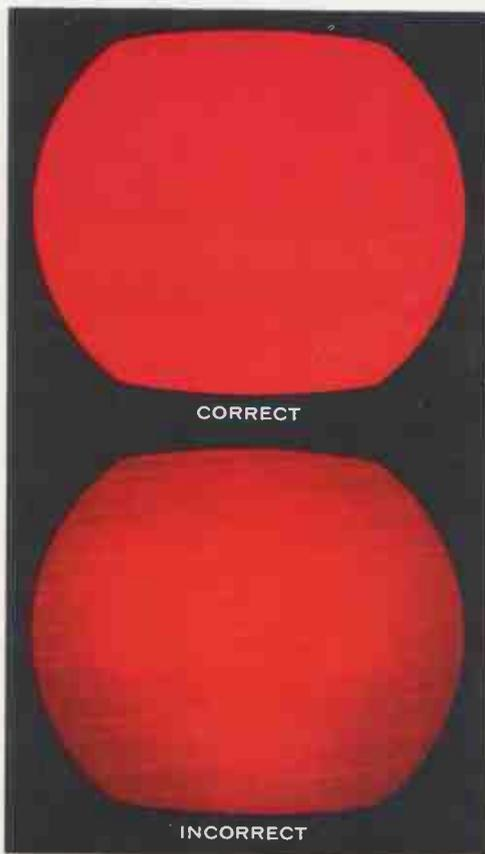

FIG. 3-15. Adjustment of deflection yoke position to obtain good purity.
7. **Reposition the deflection yoke.** Move the yoke forward while observing the entire screen. A large mirror propped upon a chair is helpful at this point. Position the yoke to obtain the most uniform red over as much of the screen area as possible. Figure 3-15 shows correct and incorrect yoke settings. The yoke should be clamped in the position for best purity. However, before tightening the yoke clamp, check for tilt. This may be done conveniently by turning the NORMAL-SERVICE switch, on the rear apron of the chassis, to the *service* position. This disables the vertical deflection circuit and produces a thin horizontal line on the screen. Tilt the yoke to make the line parallel with the top or bottom of the front mask, and tighten the screw on the yoke clamp.